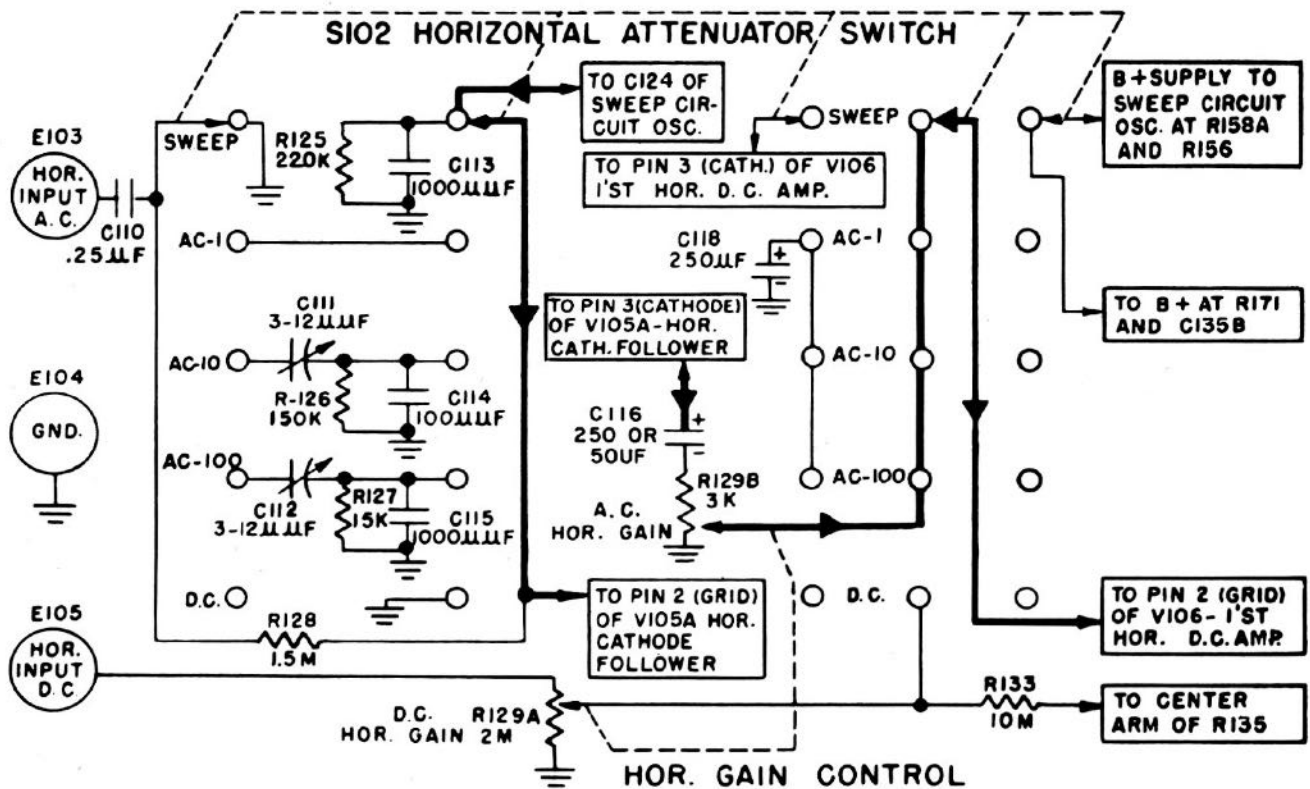
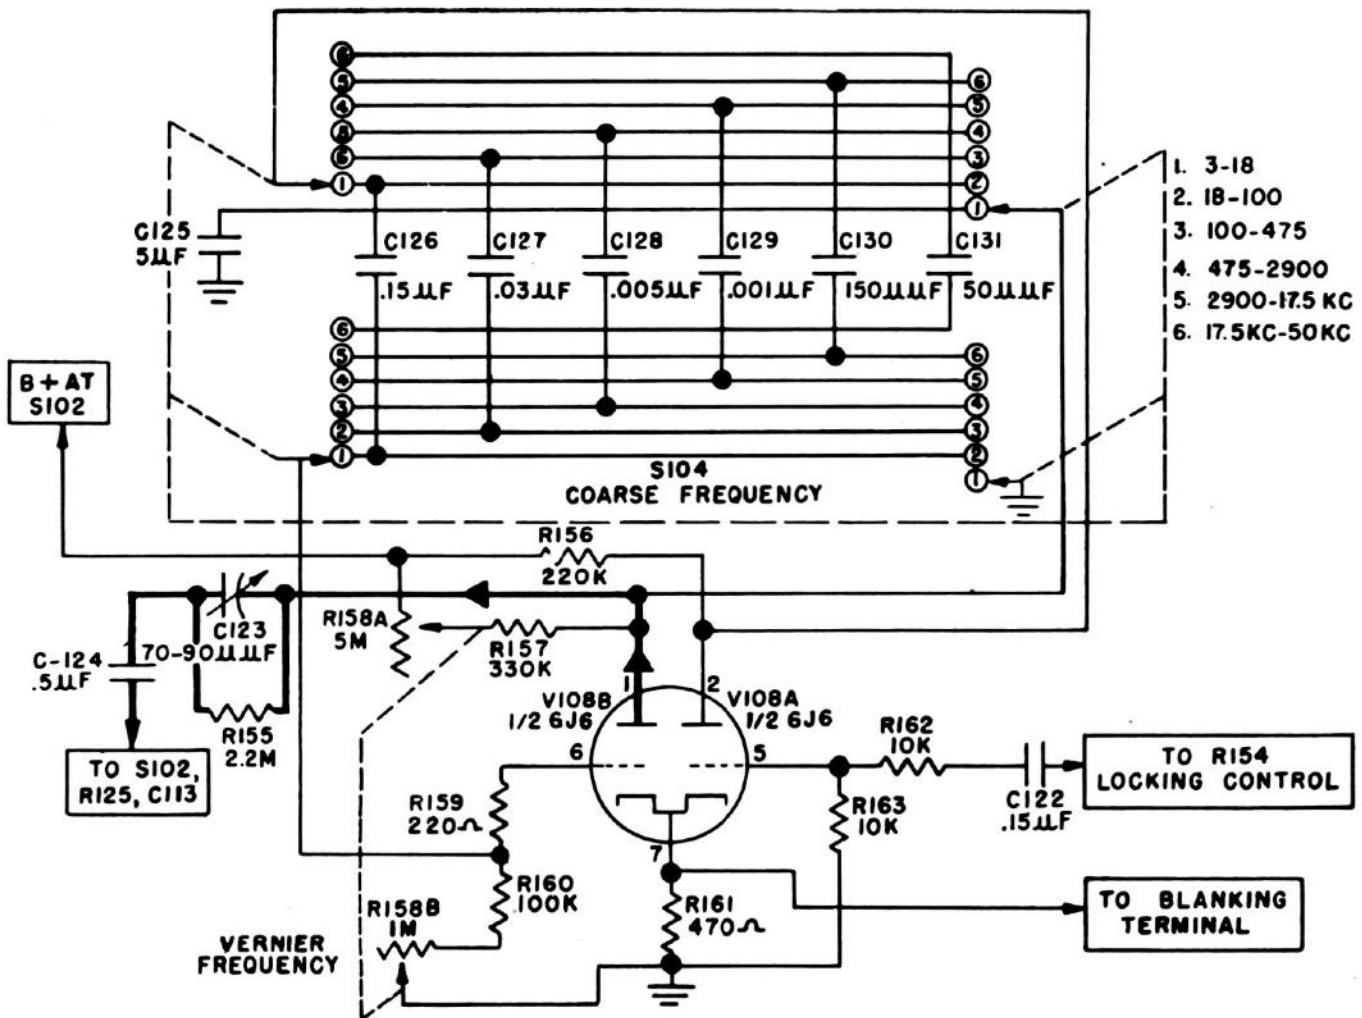

Figure 2-5. Horizontal Input Attenuator
Figure 2-8. Sweep Circuit Oscillator
(1) HOR. ATTEN. and HOR. GAIN. (See Figure 2-5)
c. SWEEP CIRCUIT OSCILLATOR. (See Figures 2-8 and 2-8A)
A cathode coupled, multivibrator circuit utilizing a type 6J6 tube, V108, is used as the horizontal sawtooth oscillator and operated over a frequency range from 3 to 50,000 cycles per second. This range of frequencies is controlled by the COARSE FREQUENCY switch, S104, utilizing capacitors C125 through C131. These capacitors act alternately and respectively as sawtooth generating capacitors for the second triode section, V108B, and as coupling capacitors for the first triode section, V108A, to the second triode section of the multivibrator. In the position shown in Figure 2-8, C125 is used as a sawtooth capacitor while C126 is the coupling capacitor.
V108B through the frequency compensated voltage divider consisting of R155 shunted by C123 (Fig. 2-8) and R125 shunted by C113 (Fig. 2-5), and decoupled by capacitor C124. This sawtooth signal is applied to the horizontal cathode follower through HOR. ATTN. S102 when set to the "SWEEP" position. The high frequency linearity of the sawtooth may be adjusted with capacitor C123 in the frequency compensated dividing network.